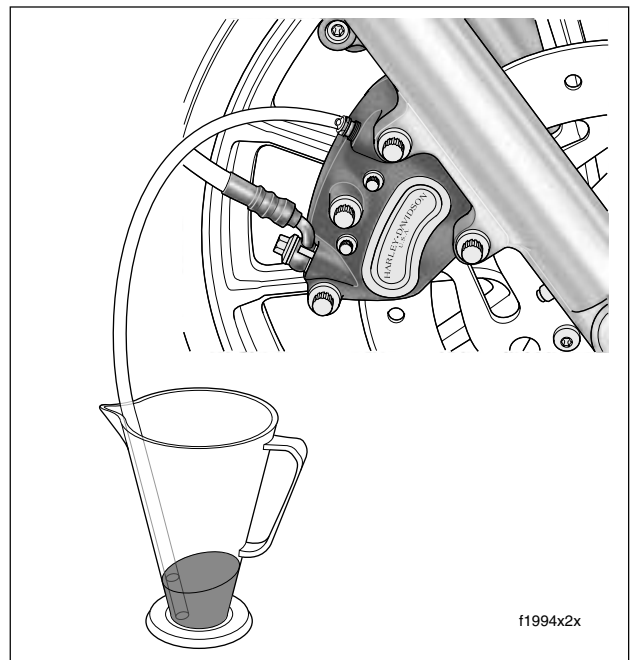

Figure 2-68. Bleeding Hydraulic System
1. Install end of a length of plastic tubing over caliper bleeder valve. Place free end of tube in a clean container. See Figure 2-68. Stand motorcycle upright.